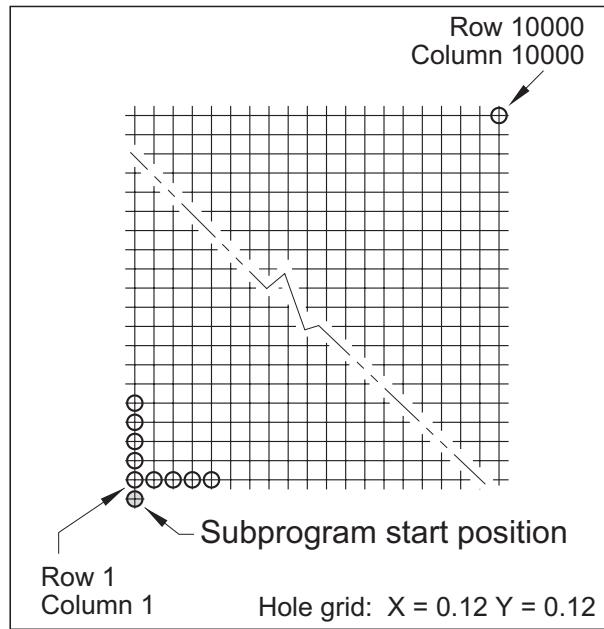

Figure 39-13
The example illustrates how one hundred million holes, (yes, *one hundred million holes*), can be spot drilled *and* drilled using a program of only 29 blocks for the two cutting tools. These 29 blocks even include program numbers and stop codes (% signs). Figure 39-13 shows a simple grid pattern of 10000 rows (X) and 10000 columns (Y).